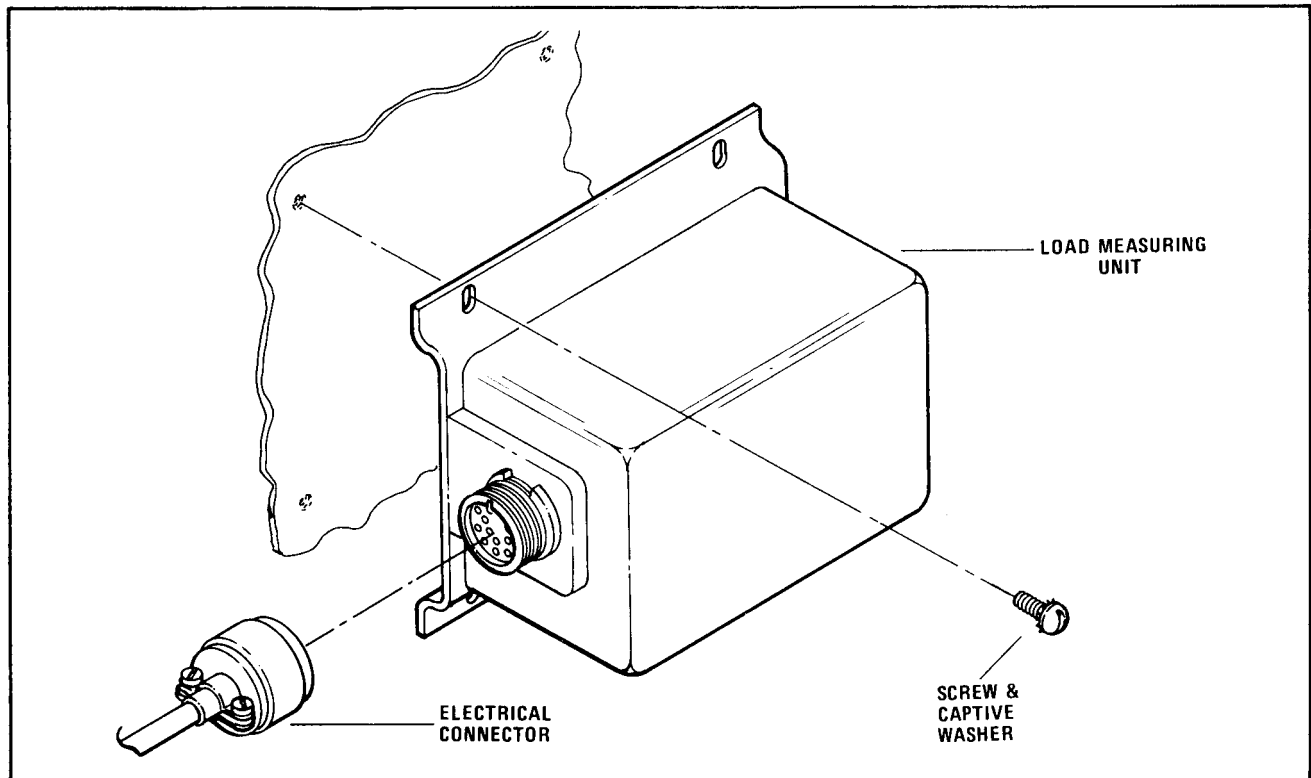

Figure 3-42. Load Measuring Unit, Removal and Installation
(1) Tag and disconnect electrical connector from load measuring unit (figure 3-42).
(2) Remove screws and tooth lockwashers to remove load measuring unit.